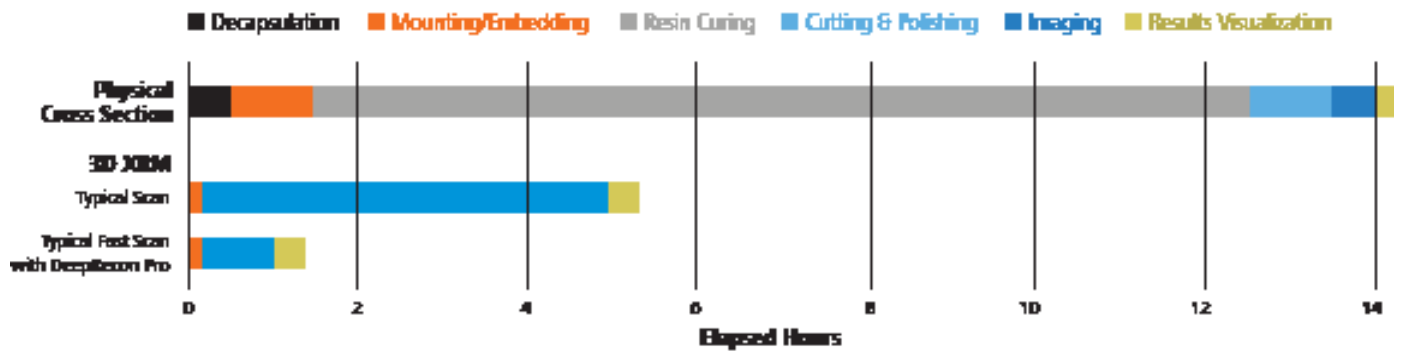

Figure 2 Typical Time-to-Results Comparison of Physical Cross Section with 3D XRM
3D X-ray scanning provides data in a matter of hours and produces virtual 2D cross-sections at any location or orientation the user requires. XRM scan times depend on sample characteristics, with two cases shown in Figure 2. (Tech Brief #5 in this series will show how advanced AI-powered tomography reconstruction techniques
ZEISS Xradia microscopes use fully-motorized stages with submicron accuracy to quickly position arbitrary locations for 3D scanning. Live 2D X-ray imaging during set-up enables a user to simply double-click at a position on the device to move it to the center of the field of view, as shown in Figure 2.
Figure 2 During the 'Scout' step of preparing an X-ray scan, the operator uses a live 2D view to position any location of the device for high resolution scanning. A double-click directly on the live image, as depicted by the red crosshairs, repositions the sample to place the desired location at the center of the tomography rotation axis and field of view.
**Figure 3** 3D XRM scan of the sample depicted in 2D in Figure 2. An initial scan at moderate resolution captured nearly the entire wifi/Bluetooth module. The sample was then repositioned to target a specific location with a high resolution scan. Multiple such targeted scans can be run in succession without user intervention or re-mounting the sample. First appeared in Harris et al., IRPS 2022
from a smartphone. The photo shows the module still mounted on the board which was loaded into the X-ray microscope. An initial scan captured nearly the entire module, while a subsequent high-resolution scan targeted a specific off-center region (positioned as shown in Figure 2). Virtual cross sections show the results of the high resolution scan.